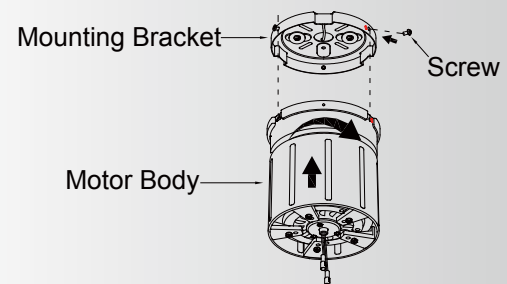

Fig. 12
Step 1. Lift the motor body, allowing the two screws on the mounting bracket to slide into the mating slots. Rotate the motor body until both screws from the mounting bracket drop into the slot recesses. Replace the screw removed previously and securely tighten all three screws. (Fig. 12)